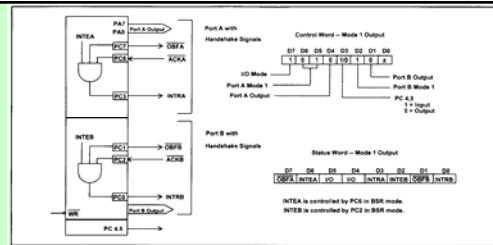

Figure 4-10. 8255A Mode 1 Output Diagram (Reprinted by permission of Intel Corporation, Copyright Intel Corp. 1983)
- As shown in Fig. 4-10, A and B can be used as output ports to send data to a device with handshaking signals.